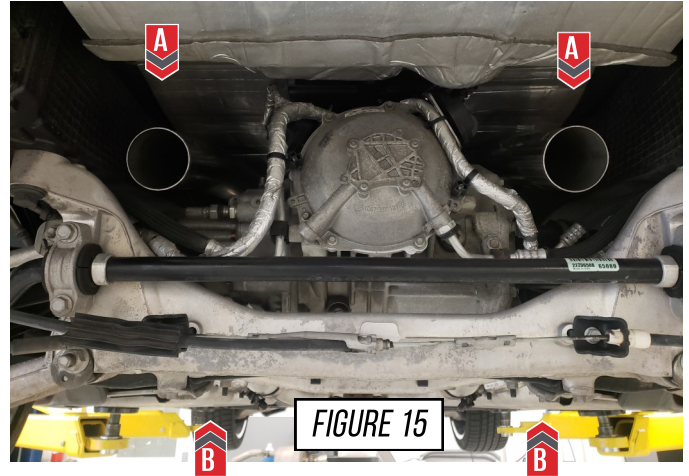

FIGURE 15
Install the two over axle tubes from the rear of the vehicle (A), following the same way the OE system was removed and connecting to the X pipe (B), shown in **Figure 15**.